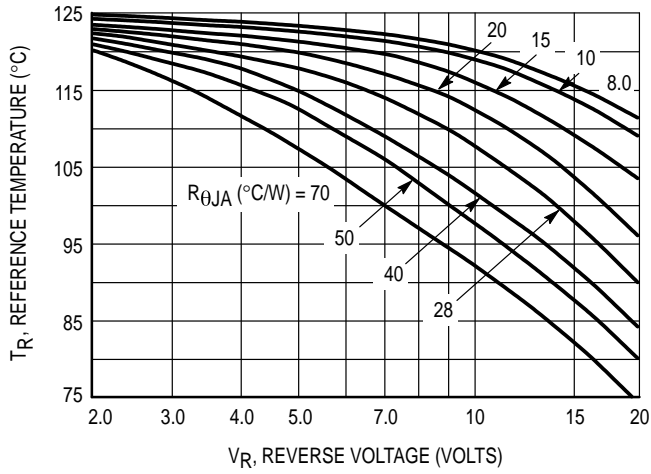

Figure 1. Maximum Reference Temperature
Figures 1, 2, and 3 permit easier use of equation (1) by taking reverse power dissipation and thermal runaway into consideration. The figures solve for a reference temperature as determined by equation (2).
Inspection of equations (2) and (3) reveals that T_R is the ambient temperature at which thermal runaway occurs or where $T_J = 125^\circ\text{C}$, when forward power is zero. The transition from one boundary condition to the other is evident on the curves of Figures 1, 2, and 3 as a difference in the rate of change of the slope in the vicinity of 115°C .
The data of Figures 1, 2, and 3 is based upon dc conditions. For use in common rectifier circuits, Table 1 indicates suggested factors for an equivalent dc voltage to use for conservative design, that is: